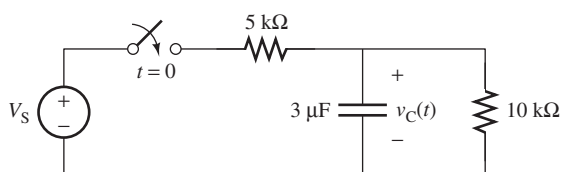

FIGURE P5.8 Circuit for Problem 5.8.
- 5.8 (H) At $t = 0$, the switch in Figure P5.8 is opened after being closed a long time. At what time t is $v_C(t)$ equal to $\frac{1}{2} V_S$?